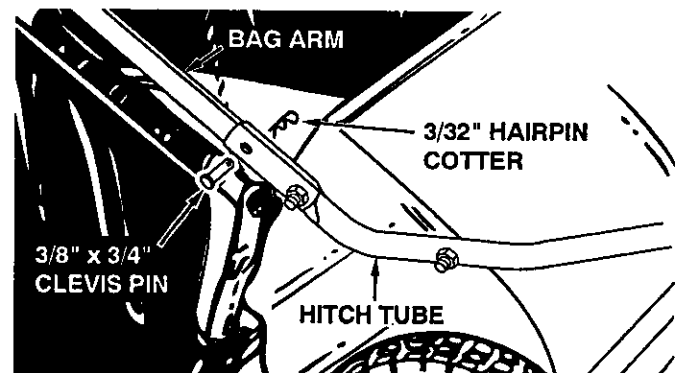

FIGURE 21
- To assemble the hopper bag to the sweeper, slide the ends of the bag arms into the ends of the hitch tubes and secure with two 3/8" x 3/4" clevis pins and 3/32" hairpin cotters. See figure 21.